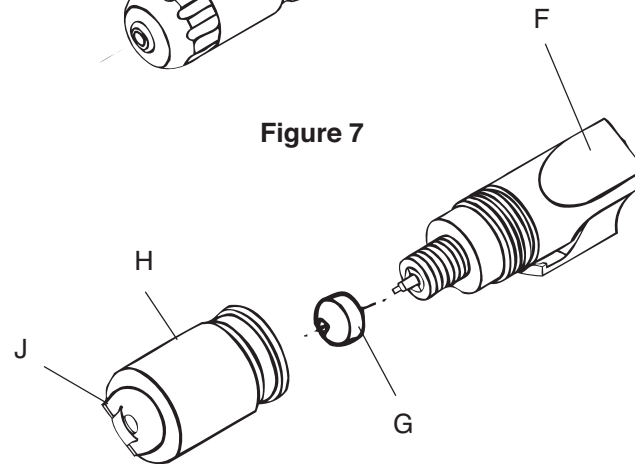

Figure 8
2. Mount tip (G) on the paint channel of the spray gun body (F). See figure 8.
3. Place spray gun body (H) on tip (G), fitting lugs of air cap into grooves of tip insert.
4. Mount air cap (J) onto spray gun body until past the tip security lever.
5. Adjust desired air jet level by means of air cap horns (J) and tighten air cap.
1. Remove air cap (H), see figure 8.
2. Remove flat spray tip (G) and clean it.
3. Carefully handle the carbide flat spray tip (G); avoid cleaning with a sharp-edged metal object.